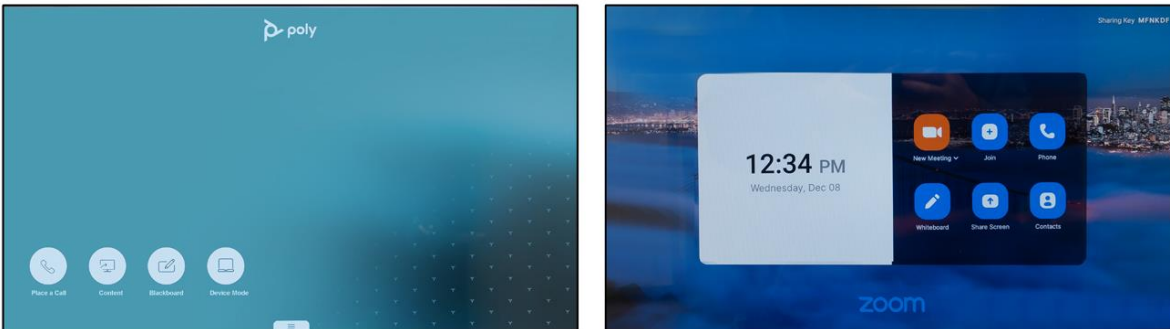

Figure 10. Examples of Different Control Screen Functions and Layouts
- Figure 10. Examples of Different Control Screen Functions and Layouts 15
The status of each individual battery is displayed on the top right-hand corner on the monitor. The LED indicators change color to show the state of each of the three batteries as described in Figure 10 below.